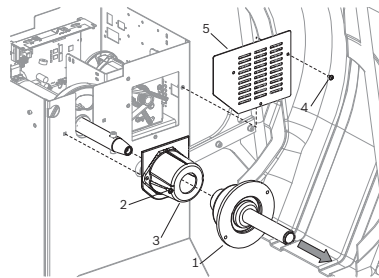

Fig. 20:
2. Remove the central centring flange (fig.20, pos.1) and, once loosened the three screws (fig.20, pos.4) and the two screws (fig.20, pos.2);
3. Remove the pin cover in fig.20, pos.3 and the side cover of the motor closing in fig.20, pos. 5;